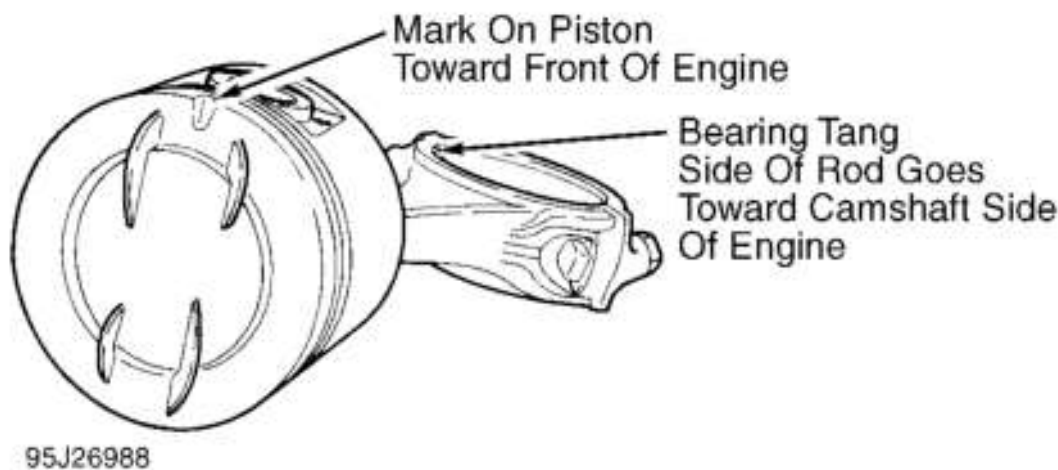

Fig. 9: Positioning Piston On Connecting Rod
Note direction of connecting rod installation on piston before removal. Ensure pistons and rods are installed in cylinder from which they were removed. When installing piston in bore, ensure arrow on top of piston is facing front of engine and bearing tang on connecting rod is facing camshaft. See **Fig. 9**.
2. Before assembling piston and rod, ensure connecting rod pin bore diameter and piston diameter are within specification. See **CONNECTING RODS** and **PISTONS PINS & RINGS** tables under ENGINE SPECIFICATIONS. Apply light coat of engine oil to parts to be assembled. When installing piston pin, ensure piston and connecting rod are assembled as shown. See **Fig. 9**.